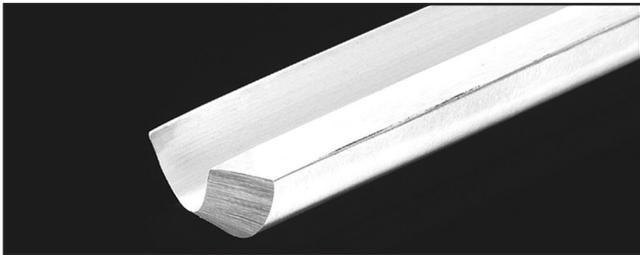

Figure 19. Gouge.
- **Gouges**—Mainly used for rough cutting, detail cutting, and cove profiles. The rough gouge is a hollow, double-ground tool with a round nose, and the detail gouge is a hollow, double-ground tool with either a round or pointed nose. **Figure 19** shows an example of a gouge.